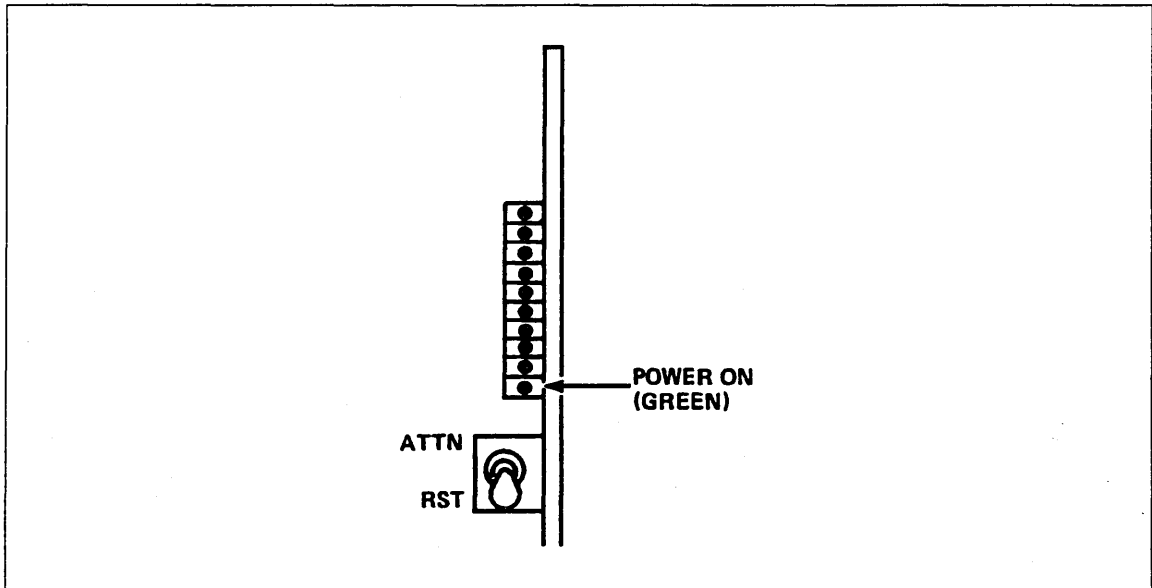

Figure 1-17. MPB Power Indicator
7. Check that the green power indicator on the MPB (shown in figure 1-17) is lit. (Ignore the other indicators for now.) If the power indicator is not lit, turn off the power and unplug the power cord. Refer to the power supply voltage checks in the Troubleshooting Guide (listed in About This Manual) or contact someone in network maintenance.